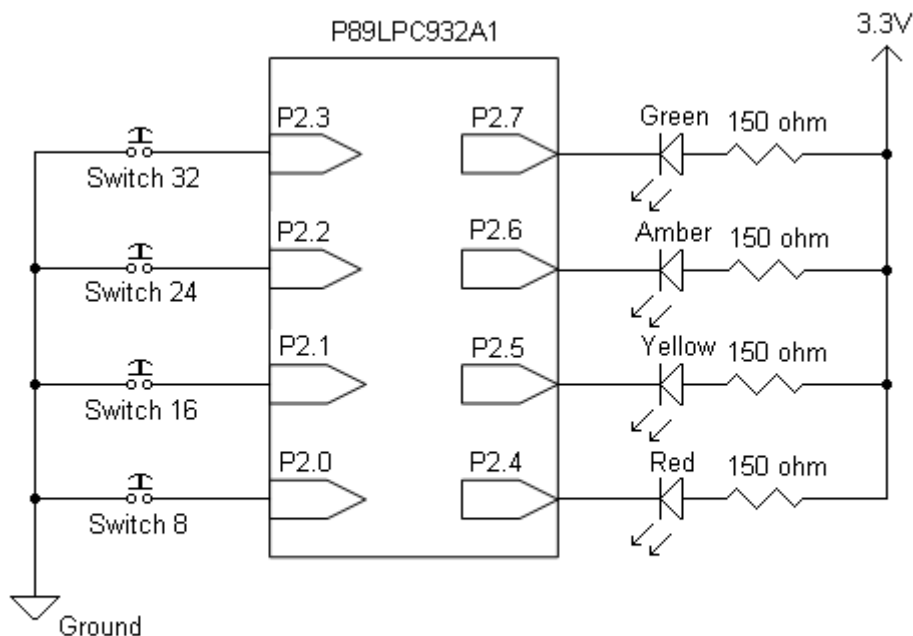

Figure 1 Input and Output Port Names
Some memory locations can be referred to by a name instead of a binary number when writing programs. This microcontroller defines the first eight addresses in RAM as the registers R0 through R7. These eight registers can be used to store any general purpose data or variables. The microcontroller also has special function registers. A list of the special function registers for the 8051 microcontroller can be found starting on page 3 in the 8051 Family Programmer's Guide. These registers control the many of the actions in this microcontroller. There are a few special function registers that we will use today. One of these is called Port 2. When writing programs, it can be referred to as P2. This special function register is connected to the switches and LED's used in the Simon game. See figure 1 to see how each switch and each LED are connected to port 2. A useful feature of this microcontroller is that each bit of all the ports has its own address. Therefore if we want to read the value from switch 8, then the value of P2.0 (port 2, bit 0) can be read. And if we want to write a value to the red LED, then we write to P2.4 (port 2, bit 4).
**Exercise 3:** Use the mov c,bit instruction and the mov bit,c instruction along with the diagram in figure 1 of this handout to add to the program so that it will read all four switches and light the LED that is located right above it on the board. Rebuild all target files under the project menu to update the .hex file with your changes. Use the debugger to make sure your program works and then download the .hex file into the hardware.